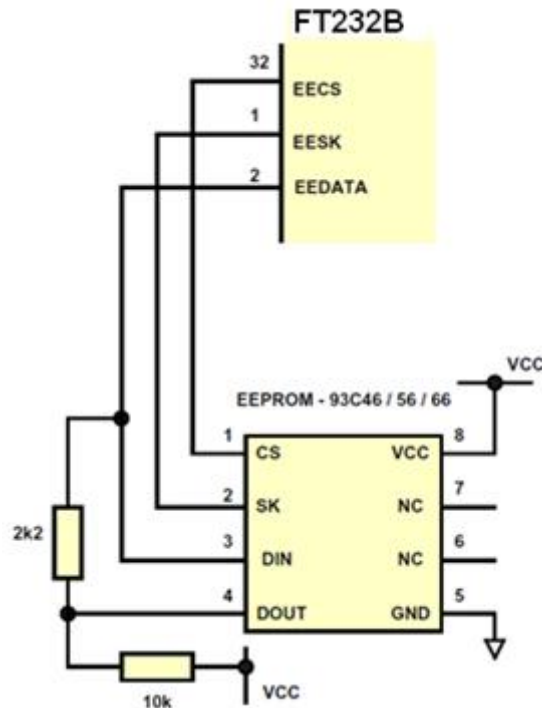

Figure 7.3 EEPROM Configuration
Figure 7.3 illustrates how to connect the FT232B to the 93C46 (93C56 or 93C66) EEPROM. EECS (pin 32) is directly connected to the chip select (CS) pin of the EEPROM. EESK (pin 1) is directly connected to the clock (SK) pin of the EEPROM. EEDATA (pin 2) is directly connected to the Data In (Din) pin of the EEPROM. There is a potential condition whereby both the Data Output (Dout) of the EEPROM can drive out at the same time as the EEDATA pin of the FT232B. To prevent potential data clash in this situation, the Dout of the EEPROM is connected to EEDATA of the FT232B via a 2.2K resistor.
Figure 7.3 illustrates how to connect the UART interface of the FT232B to a TTL – RS485 Level Converter I.C. to make a USB => RS485 converter. This example uses the Exar/Sipex SP481 device but there are similar parts available from Maxim and Analog Devices amongst others. The SP481 is a RS485 device in a compact 8 pin SOP package. It has separate enables on both the transmitter and receiver. With RS485, the transmitter is only enabled when a character is being transmitted from the UART. The TXDEN pin on the FT232B is provided for exactly that purpose and so the transmitter enable is wired to TXDEN. The receiver enable is active low, so it is wired to the PWREN# pin to disable the receiver when in USB suspend mode.